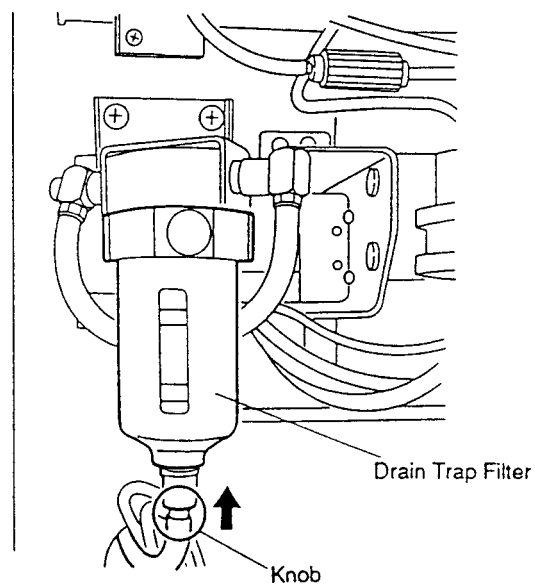

Figure 6-2-11 Filter Assembly No.6
3. If there is water, push up the knob as shown in Figure 6-2-11 to drain the water out to the waste line through Silicone Tube.